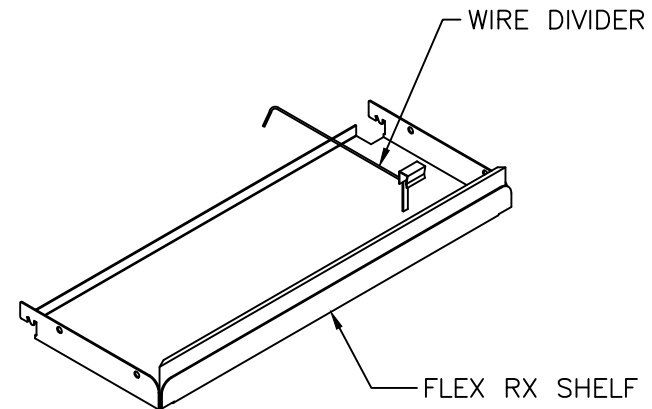

FIGURE 8
STEP 2: Install optional Acrylic Front Retainer and Metal Divider as shown in Figure 8.